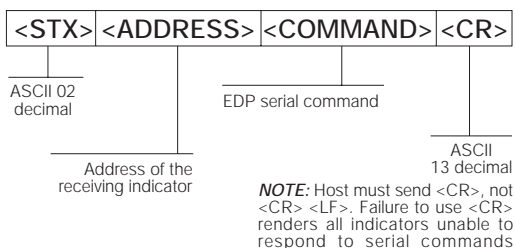

Figure 7-2. RS-485 Send Data Format
All remote commands are initiated using the data format shown in Figure 7-2:
**Example:** To send the KPRINT command from an ASCII terminal to an indicator at address 65 (decimal) on the RS-485 network, use the format shown in Figure 7-2.
- The indicator address (65) is represented by an upper case “A”.
- The carriage return (CR) character is generated by pressing the ENTER key.